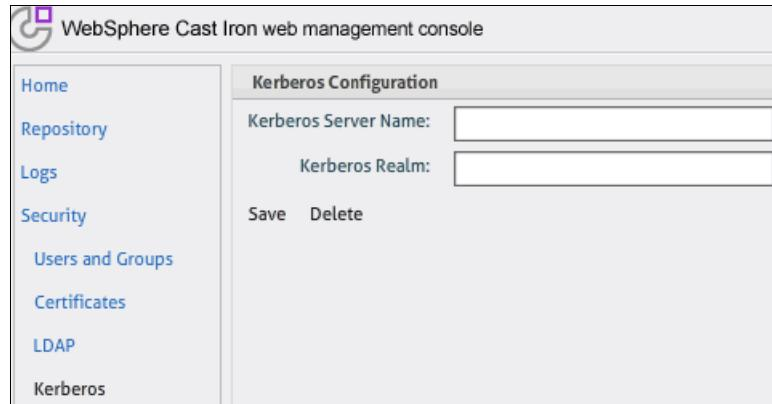

Figure 5-59 Kerberos configuration in WMC
- a. In the WMC, click **Security** → **Kerberos**. A panel displays, as shown in Figure 5-59.